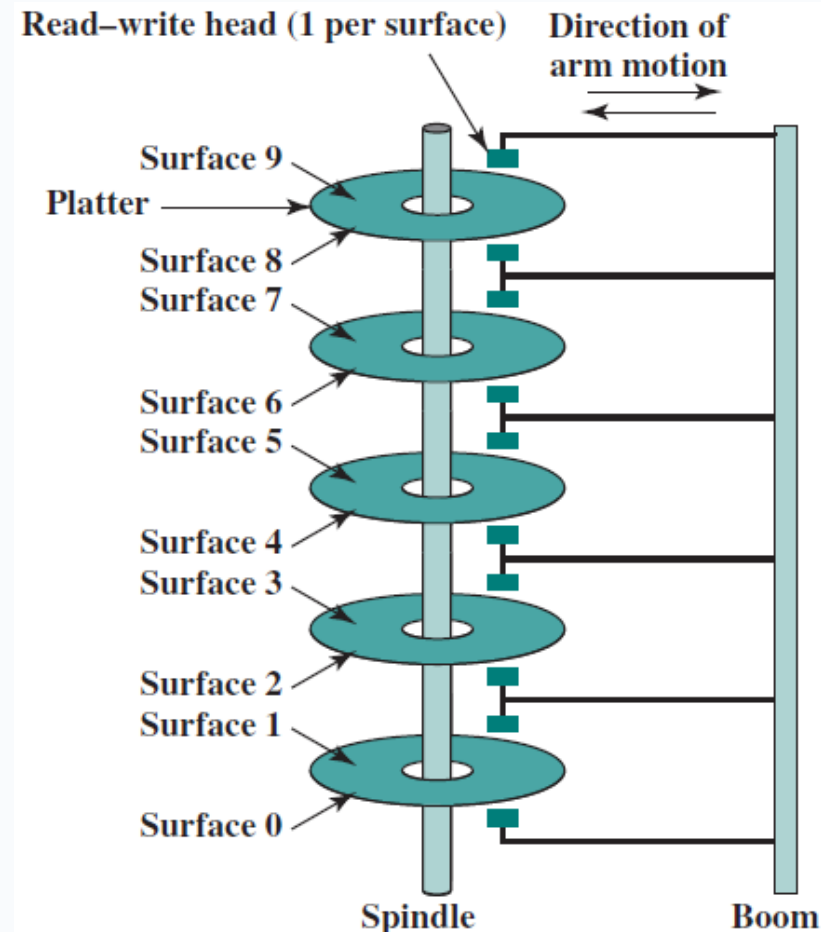

Figure 6.5 Components of a Disk Drive
- **Multiple arms** are provided as shown in the Figure 6.5.